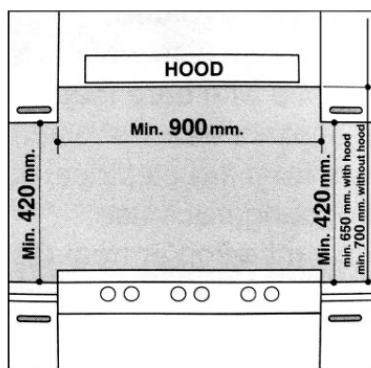

Fig.5
- The cabinets should be positioned near to the hood at a height of 420 mm at least (Fig. 5).
- Hob should be installed directly under a cupboard, the latter should be at least 700mm from the worktop, as shown in (Fig. 5).